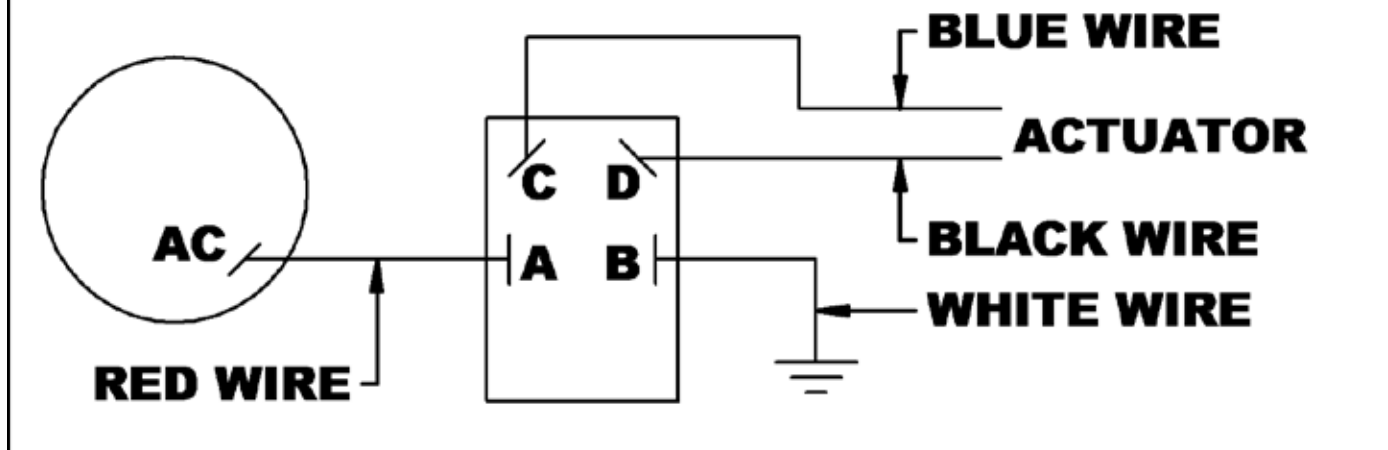

Figure 43. Electrical Diagram
9. Figure 43: Connect the flat terminal of the 72" red wire to terminal A of the switch. Then connect the flat terminal of the white wire to terminal B of the switch.
12. Attach the switch (1) to the switchbox (2) with its nut and knurled nut and install the switch cap (3). Paste the decal (4) on the switchbox (2).
13. Position the switchbox (2) in a comfortable operating position and tighten the two 1/4" x 1" hex bolts to secure the switchbox to the valve lever. Secure the wires to the switchbox and the valve lever with a nylon tie wrap using the notches provided on the switchbox.